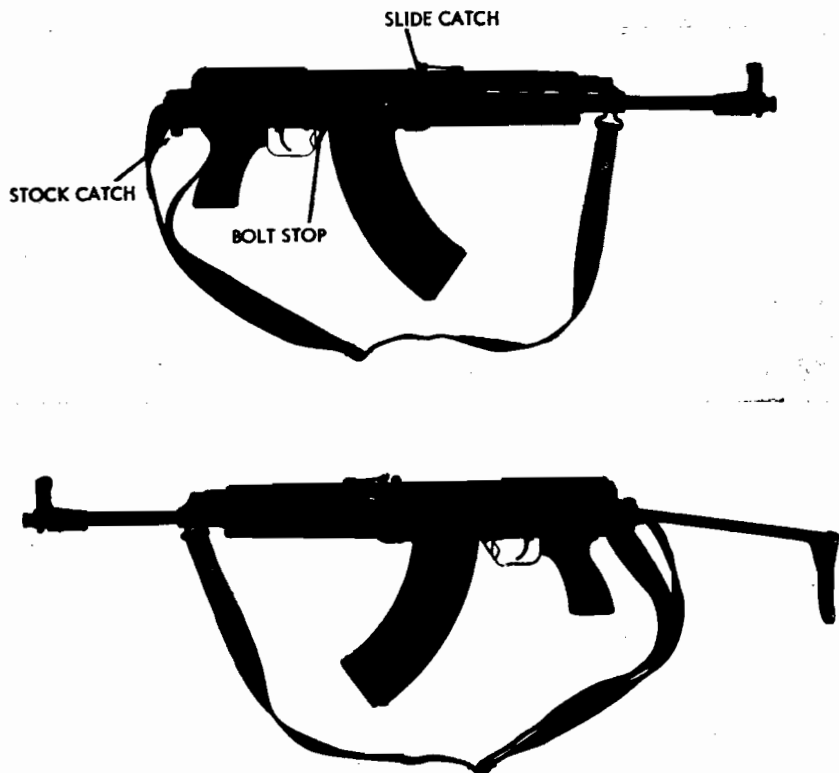

Figure 40. 7.62-mm Vz 58V (Vz 58V) assault rifle.
a. The Czechoslovak-designed-and-produced Vz 58 assault rifle, a gas-operated, selective-fire, box-magazine-fed weapon, is the standard shoulder arm of the Czechoslovak Army. Two versions of this rifle exist, the Vz 58P (fig. 39), with a conventional fixed buttstock, and the Vz 58V (fig. 40), with a folding metal buttstock. Early production weapons had wooden forearms, pistol grips, and, in the case of the Vz 58P, buttstocks; however, current production weapons have these components fabricated from a wood-fiber-filled plastic material.
d. If the rifle is a Vz 58V, the best firing results are obtained by using the stock to brace the rifle. Press up the stock latch (fig. 40) at the rear of the receiver and swing the stock sideways until it locks in its extended position. The stock is folded by pressing in the stock latch and swinging the stock forward.
e. Set the rear sight for the desired range by depressing the slide catch (fig. 40) and moving the sight bar along the leaf until the front edge of the bar is aligned with the line below the number that corresponds with the range in hundreds of meters. The "U" symbol on the sight leaf is a battle-sight setting used in combat for shooting at ranges up to 300 meters.
f. The front sight is adjustable for zero. Refer to paragraph 57b(2) for the procedure to be followed.
i. To clear the Vz 58, set the safety to its vertical (safe) position, remove the magazine, and pull the operating handle fully to the rear. Press up on the bolt stop (fig. 40) located at the right front of the trigger guard and release the operating handle. The bolt will remain open. Inspect the receiver and chamber to insure that no cartridges are present, then pull the operating handle to the rear and release it. Rotate the selector to "30" or "1," press the trigger, and then rotate the safety to its vertical (safe) position. Insert the magazine.